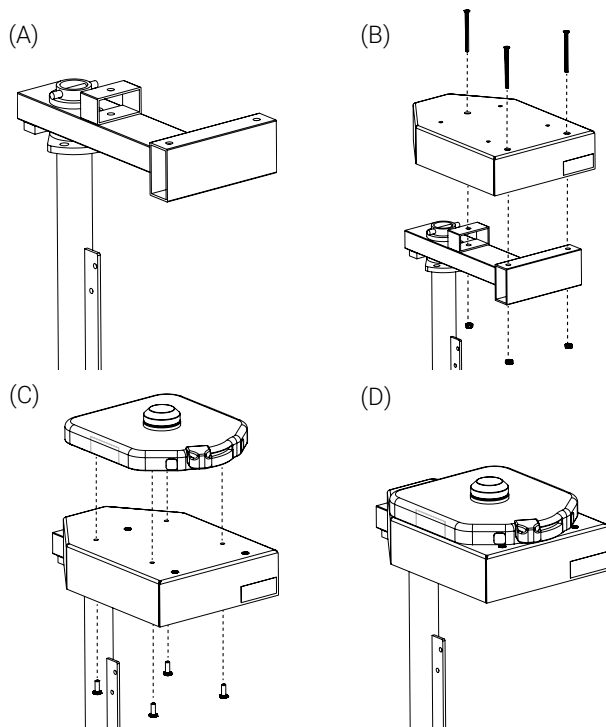

Figure 1: Universal Mounting Base™ installation
1. Remove the defibrillator tray from the Avalo[®] emergency cart defibrillator mount arm (3 screws and 3 nuts; Figure 1 A).
2. Install the support plate on the defibrillator mount arm (3 flat head screws and 3 locknuts; Figure 1 B).
3. Install the Universal Mounting Base™ on the support plate (4 pan head screws; Figure 1 C).
4. Ensure proper functioning of the Universal Mounting Base™ blue quick release mechanism (Figure 1 D).